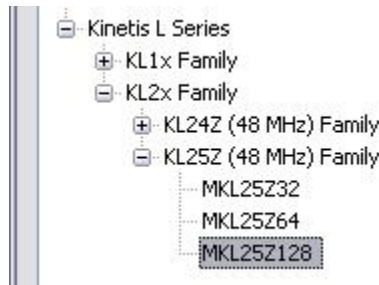

Figure 5. Kinetis L family tree
3. In the following window select the desired MCU. In this case the MKL25Z128 (48 MHz) derivative is selected. To perform this selection navigate in the tree. See Figure 5. After the MKL25Z128 option is selected click the Next > button.